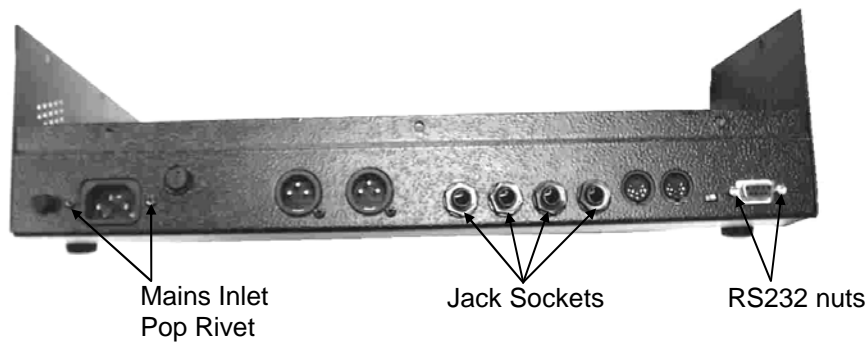

fig.5
- 2) Remove the 2 XLR screws from the rear of the base and drill out the 2 Mains Inlet IEC pop rivets (see fig.5)
- 1) Remove the 4 plastic jack sockets from the rear of the console (see fig.5)
- 2) Remove the 2 RS232 nuts (see fig.5)